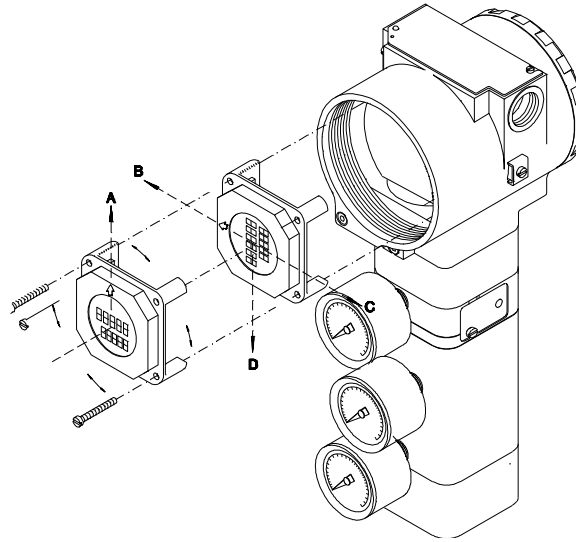

Figure 4.3 - Four Possible Positions of the Local Indicator
Plug transducer connector and power supply connector to main board (5). Attach the display to the main board. Observe the four possible mounting positions (Figure 4.3). The ▲ mark indicates up position.